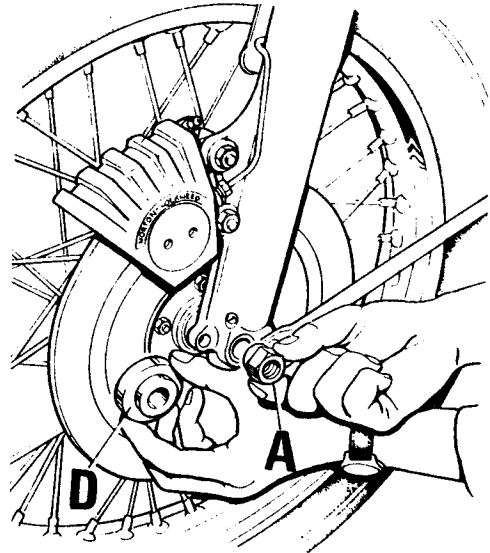

Fig. H4 Disc brake front wheel removal
- 5 Collect the wheel bearing dust covers 'C' and 'D' to prevent loss. Note that the left one 'D' has an additional spacing boss. (See Fig. H4).